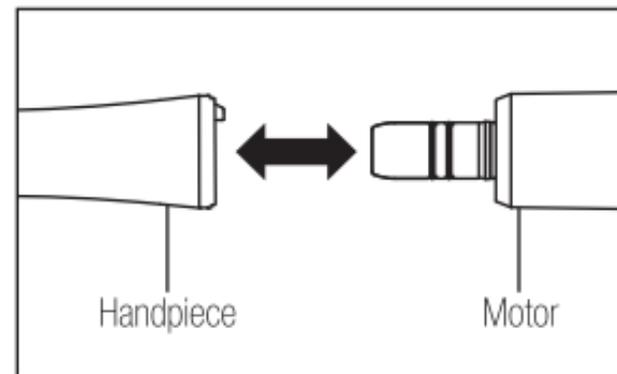

Fig. 1
- 1) Insert the handpiece direct to the motor.(Fig. 1) When connecting an optic handpiece, screw the handpiece until it clicks and locks into position.